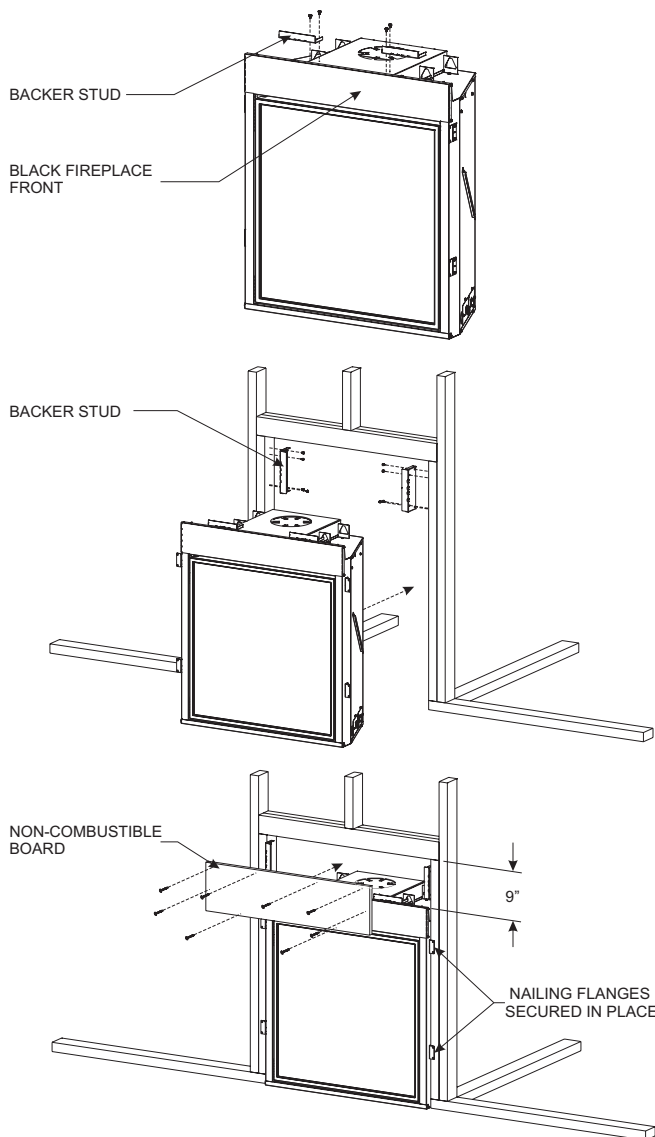

Figure 35
NOTICE: For finishing to top of fireplace, refer to **Figure 35**.
8. Attach the two backer studs to the firebox with four #10 x 1/2 Phillips screws (provided) as shown in **Figure 35**.
9. Attach the two backer studs to the vertical studs with four screws appropriate for installation (not provided) as shown **Figure 35**.
11. Mark non-combustible board for backer stud locations. Position the non-combustible board and secure with four #8 x 1 self-drilling drywall screws (provided) as shown in **Figure 35**. Four screws appropriate for installation (not provided) screw into the header. See **Figure 35**. To avoid damage to the non-combustible board, do not use more screws.